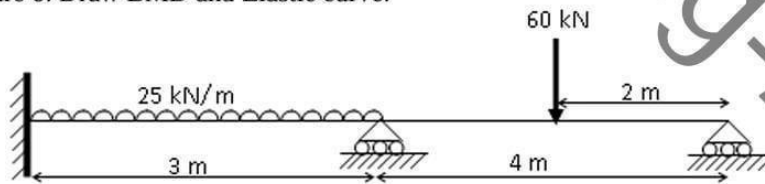

Figure 5
7. Using the stiffness method, analyze the beam supported and loaded as shown in figure 5. Draw BMD and Elastic curve. [15]